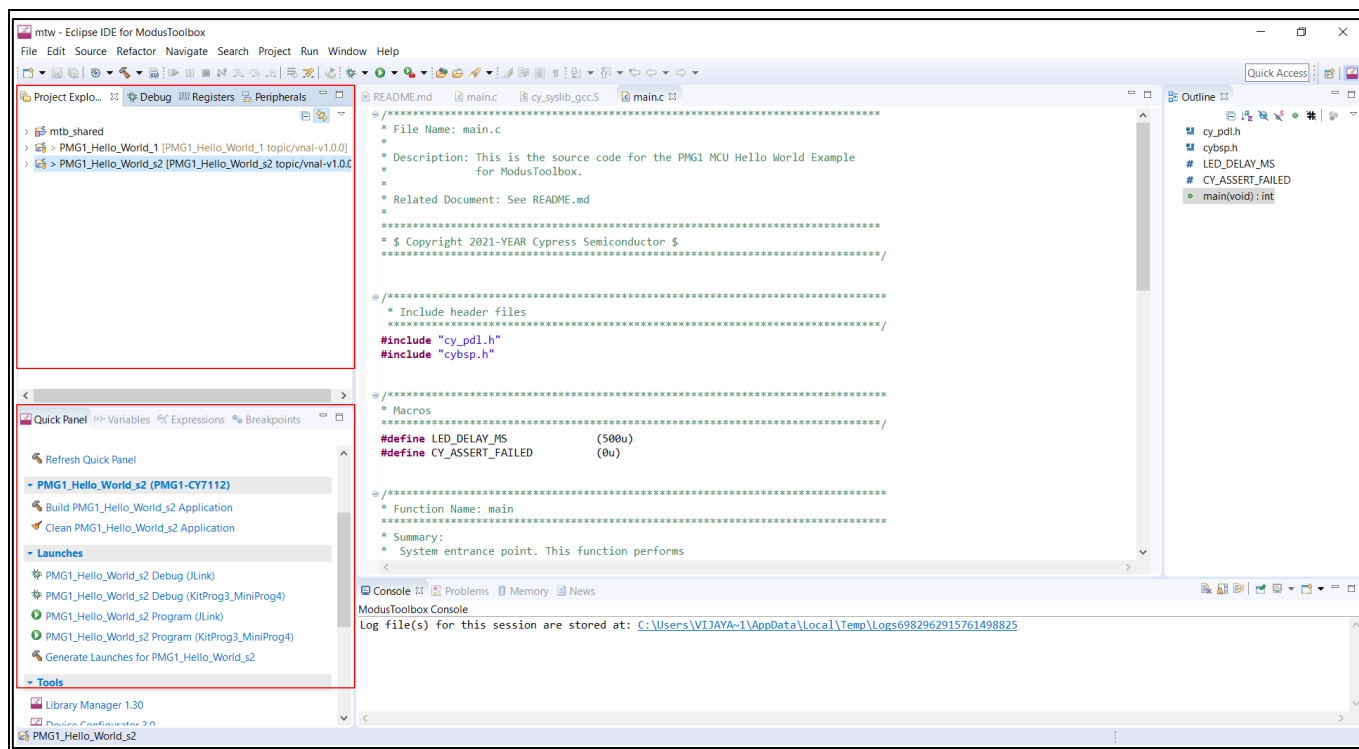

**Figure 39** Programming through the KitProg3 interface
KitProg3 is a PSoC™ 5LP MCU-based onboard programming and debugging solution integrated with the EZ-PD™ PMG1 MCU prototyping kits. You can program and debug the kit without using any separate programming and debug module by setting the power selection jumper to short pins 2 and 3 and then connecting the kit to the PC using the programming connector as shown in Figure 39.
2. Connect the prototyping kit to the host PC through the KitProg3 connector. See Figure 39 for the setup.